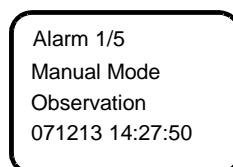

Figure 4-16 Active alarm page
2. If there is any alarm, the display will be like the page shown in Figure 4-16.